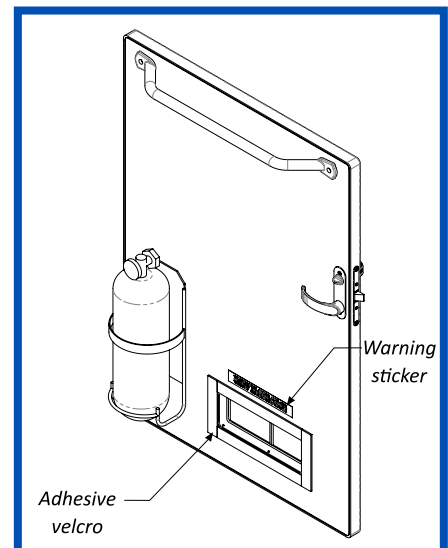

Fig. 2
- Attach the adhesive velcro around the cutout on the interior side of the door to match the canvas dust cover velcro (Fig. 2).